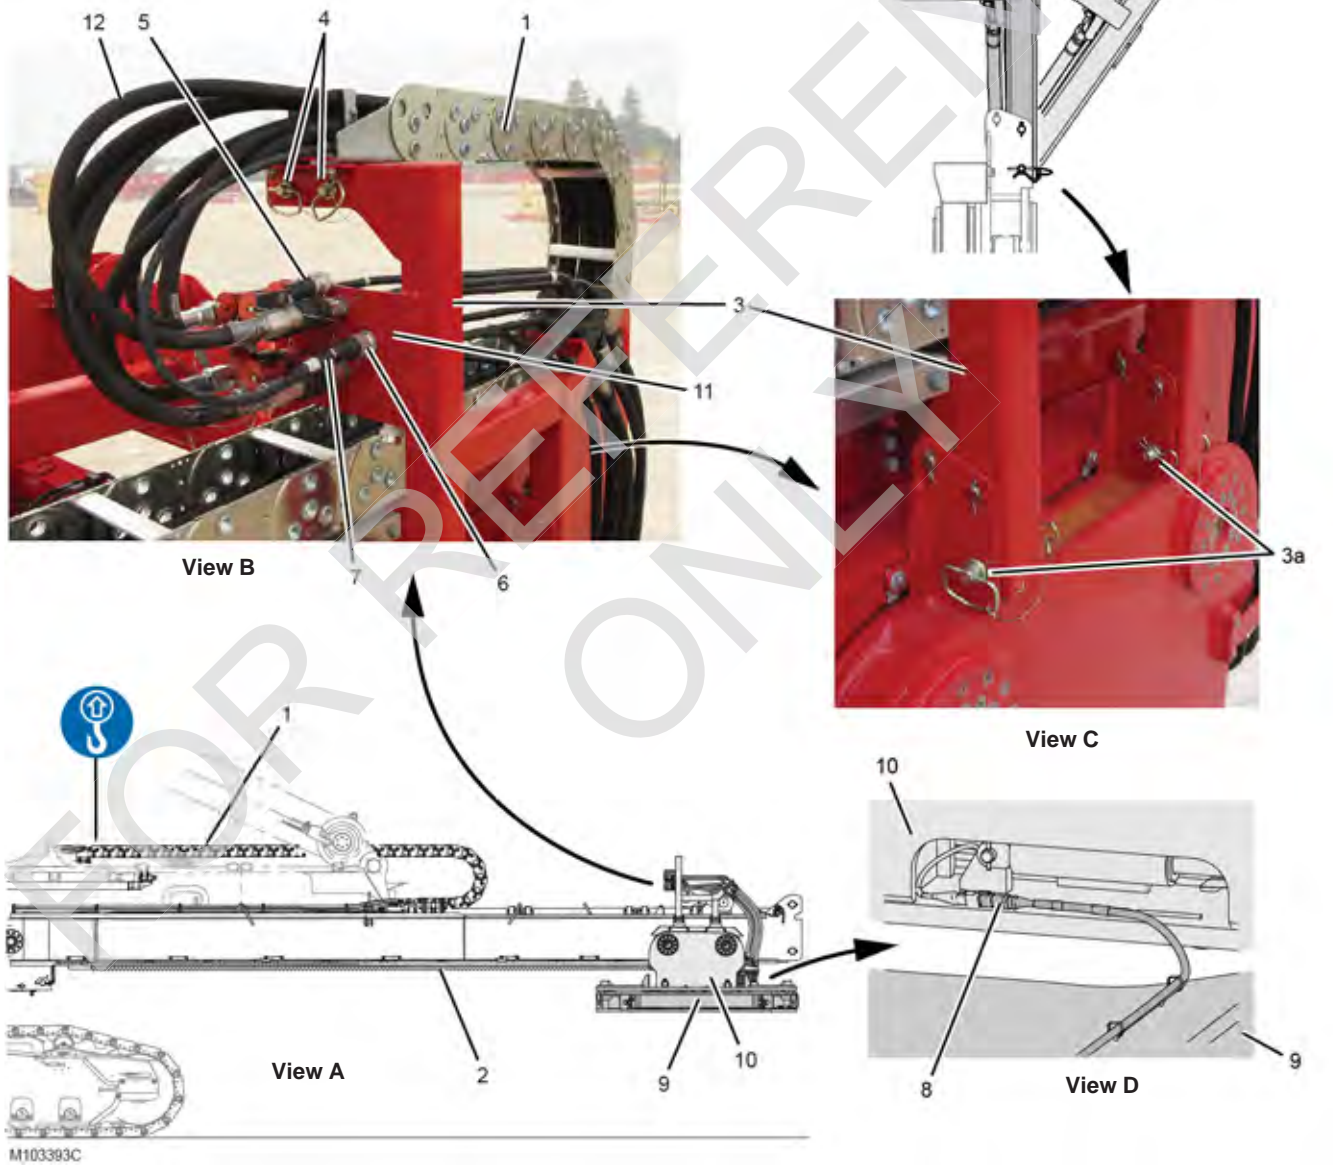

Figure 4-26
See Figure 4-26 for the following procedure.
1. Remove the hitch pins (3a, View C) and tilt the energy chain frame (2) outward to the installation position.
2. Lift the energy chain (1) and roll it rearward to the end of the VPC-MAX beam (2).
4. Remove the hitch pins (4, View B, Figure 4-26) from the energy chain (1).
5. Lower the energy chain (1, View B) onto the energy chain frame (3), align the connecting holes, and install the hitch pins (4).
See Figure 4-26, View B for the following procedure.